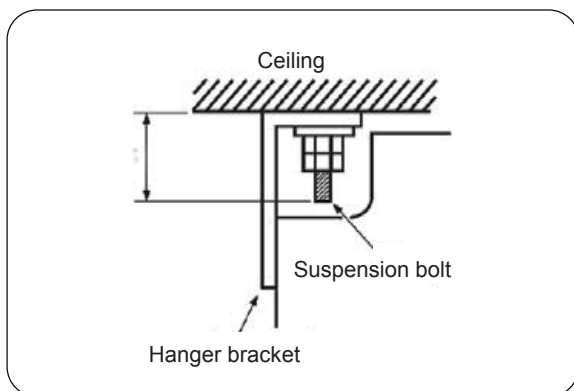

Fig.4
- (5) set the suspension bolt. (Use W3/8 or M10 size suspension bolts)
- Adjust the distance from the unit to the ceiling slab beforehand (Refer to Fig.4)
(6) Fix the hanger bracket to the suspension bolt